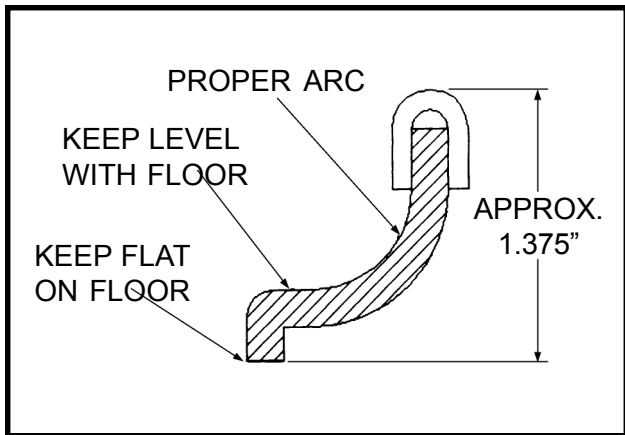

FIGURE 1
• **Adjusting Squeegee** - The three bolts which attach the squeegee will also adjust the squeegee height. Turn the bolts clockwise to raise the squeegee or counter-clockwise to lower the squeegee. A 1/2 turn should be enough. Be sure jam nuts are snug. Check performance and adjust accordingly. See FIGURE 1.